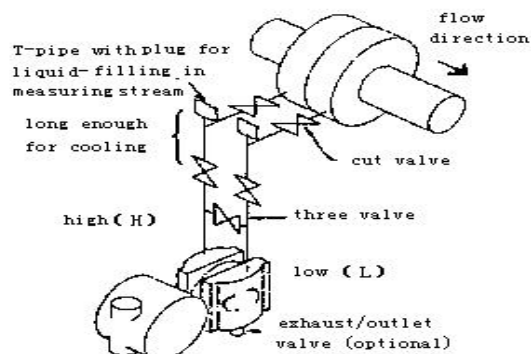

Figure 2-5 Installation for stream medium connection
**Stream:** The Inlet pressure pipe must be installed on the side of the flow pipe, and smart transmitter must be installed under the pressure port. The inlet pressure pipe should be filled with water to prevent the direct contact between smart transmitter and stream. Smart transmitter should not exceed the working temperature limit when stream or other high temperature medium is measured. As shown in Figure 2-5.